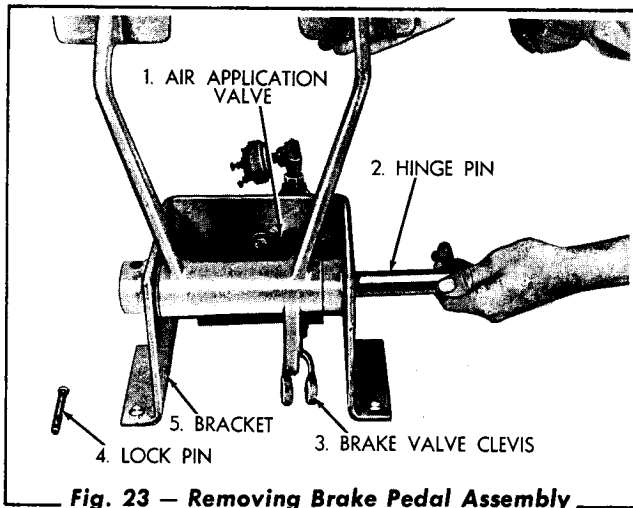

Fig. 23 — Removing Brake Pedal Assembly Hinge Pin
5. Remove the cotter pin and the lock pin from the brake pedal hinge pin. Remove the hinge pin (Fig. 23).
6. Remove the cotter pin and the pin that connects the valve clevis to the brake pedal (Fig. 23).
8. Remove the rubber boot from the valve mounting plate. Remove the capscrews, the lockwashers, and nuts that secure the valve to the bracket (Fig. 23).